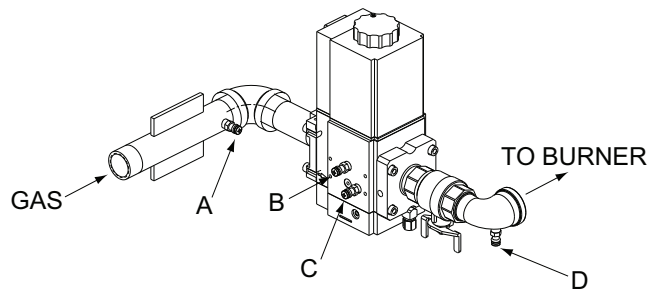

Fig. 48: Gas Pressure Measurement Locations
2. Attach (1) 12" scale manometer to an upstream bleedle valve on the gas supply pipe to the heater (Measure point "A" in Fig. 48).
3. Attach (1) 24" scale manometer to the manifold pressure tap located on the elbow downstream of the valve (Measure point "D" in Fig. 48).
4. Attach (1) 12" scale manometer near the fan-proving switch. Pull black cap from air pressure switch tee and connect the manometer. NOTE: Retain caps for reinstallation later.
1. Check manifold gas pressure at the gas valve outlet pressure tap (connection "D" in Fig. 48). This pressure should read per the values in Table X for natural and propane gas.